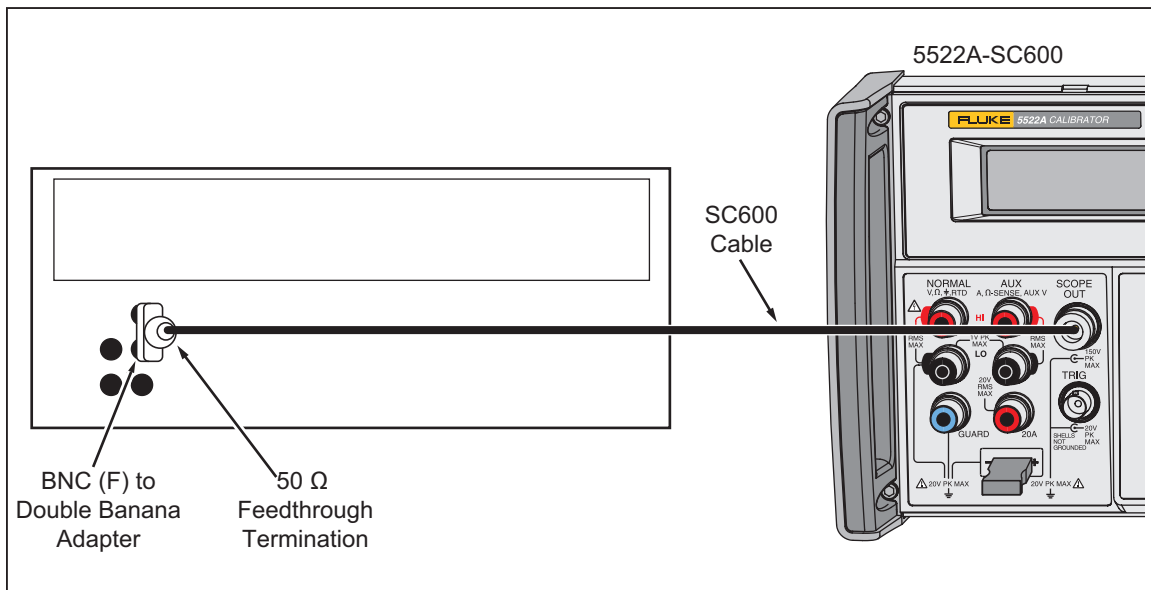

Figure 6-14. Wave Generator Verification Connections
1. Connect the equipment as shown in Figure 6-14.